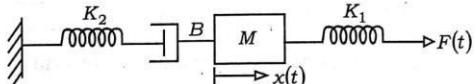

Fig. 2
- (b) Derive transfer function $\frac{X(s)}{F(s)}$ for the mechanical system shown in Fig. 2. 10